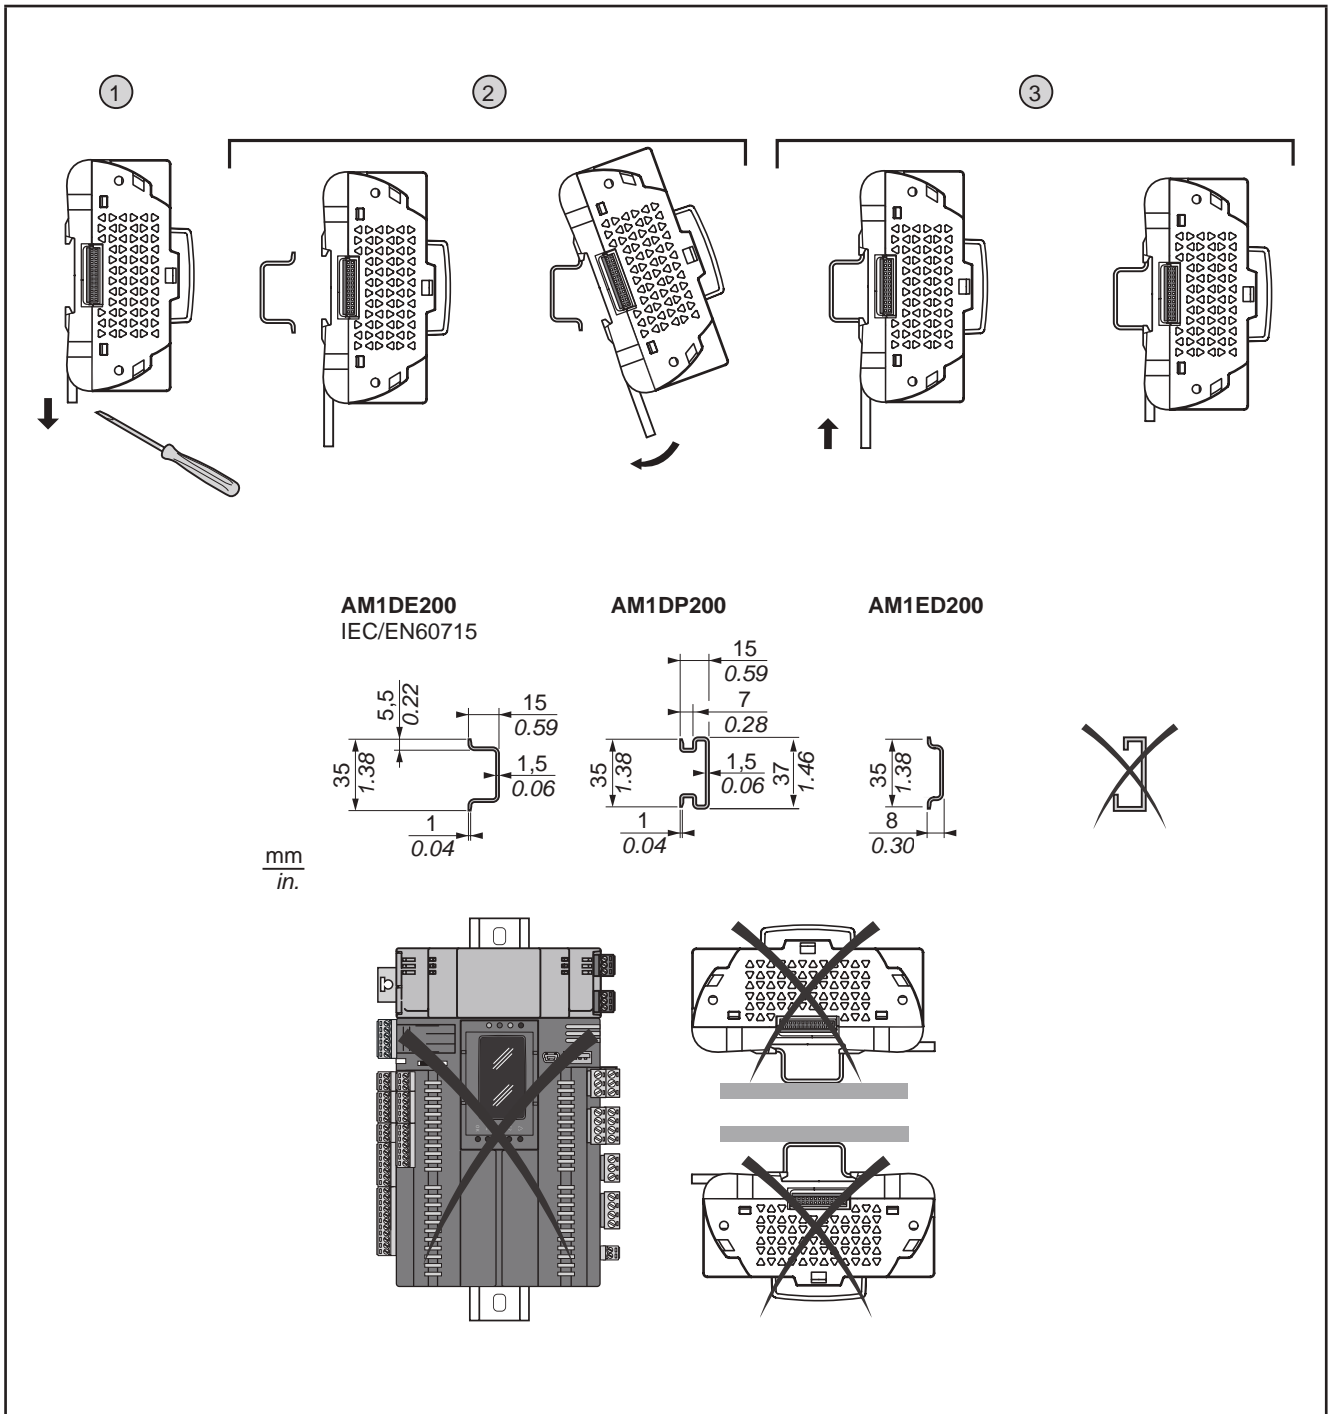
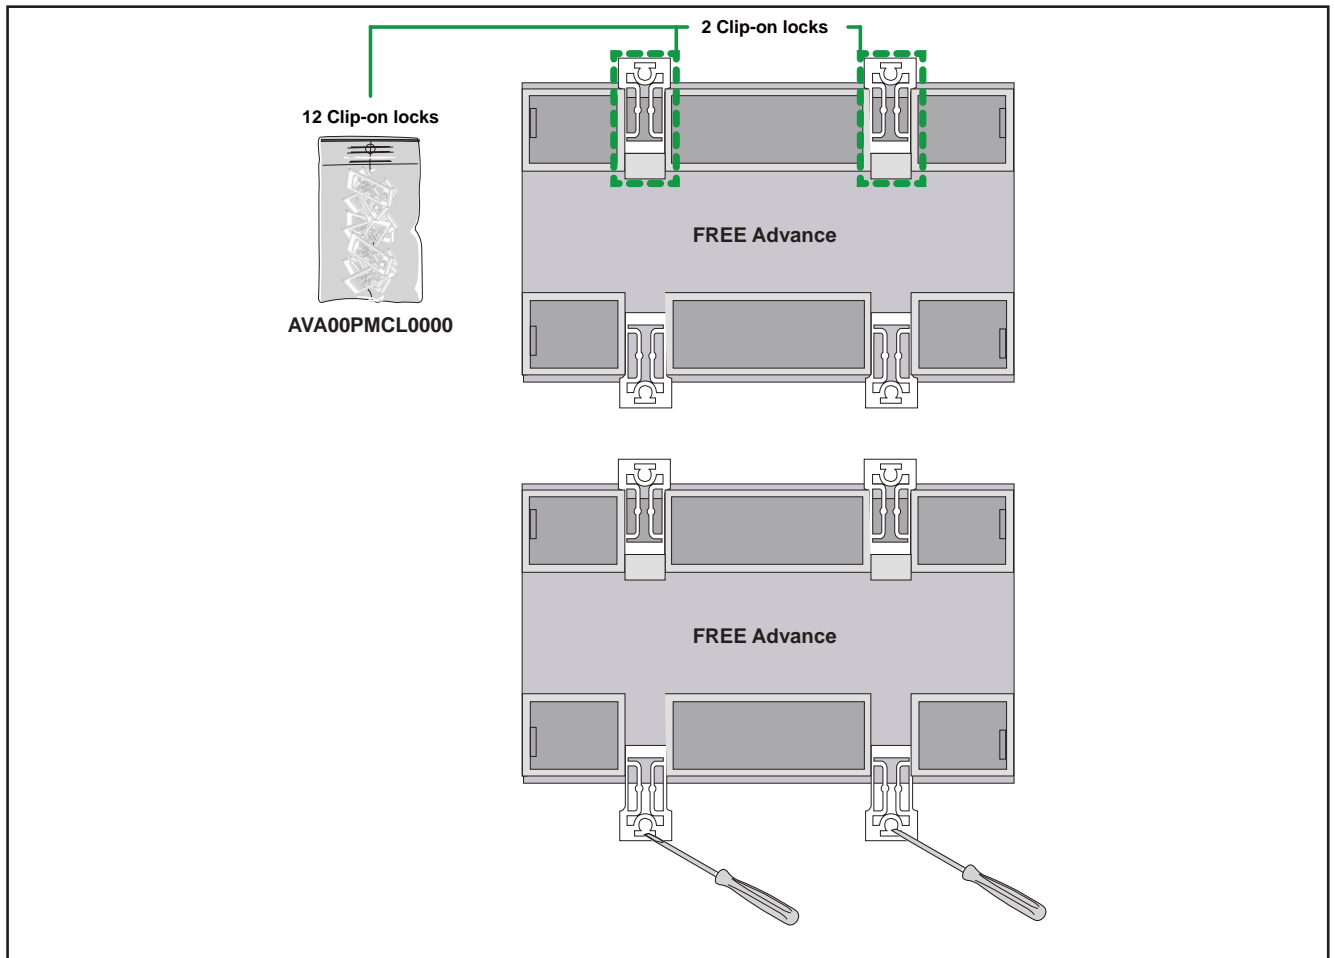
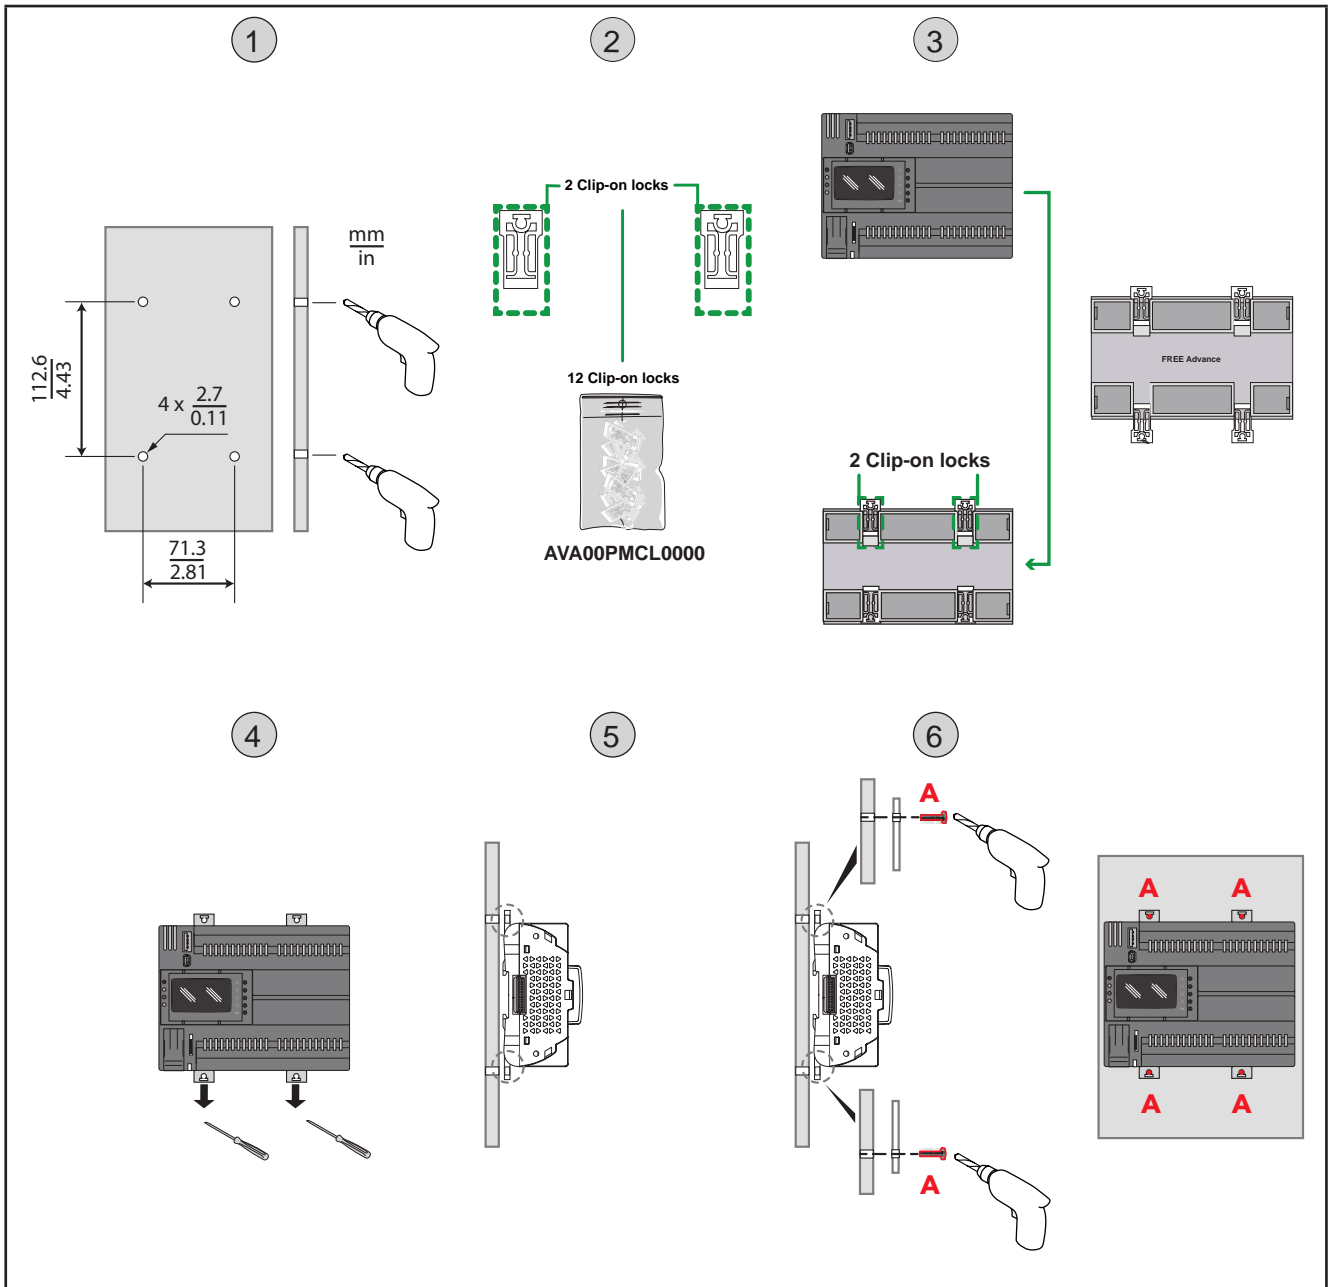

Fig. 5. FREE Advance DIN rail mounting
Fig. 7. Details of clip-on locks
Fig. 8. FREE Advance panel mounting
The equipment is intended for 8DIN rail mounting (see Fig. 5 on page 21 and Fig. 7 on page 23).
The equipment is also intended for panel mounting (see Fig. 7 on page 23 and Fig. 8 on page 24).
1. Make four holes in the panel (for the distance between holes and hole diameter, see Fig. 8 on page 24).